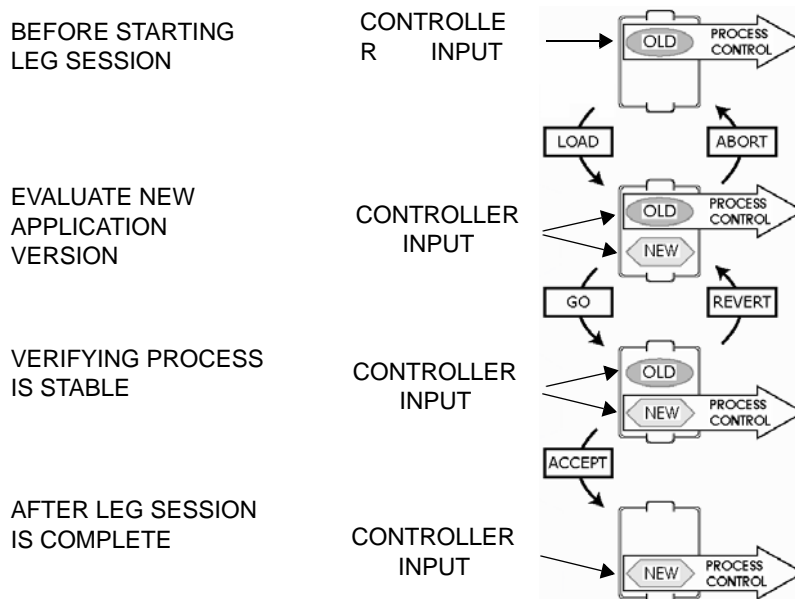

Figure 12. Controller During a Load Evaluate Go
1. (Load) The modified application is downloaded to the controller. The running application will still control the process (refer to Figure 12).